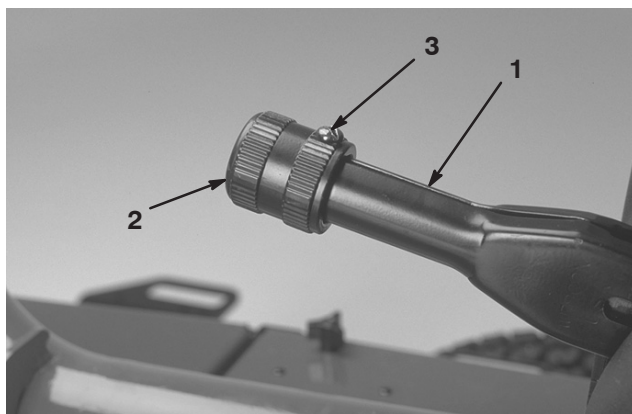

Figure 52
1. Loosen the set screw securing the knob to the parking brake lever (Fig. 52).